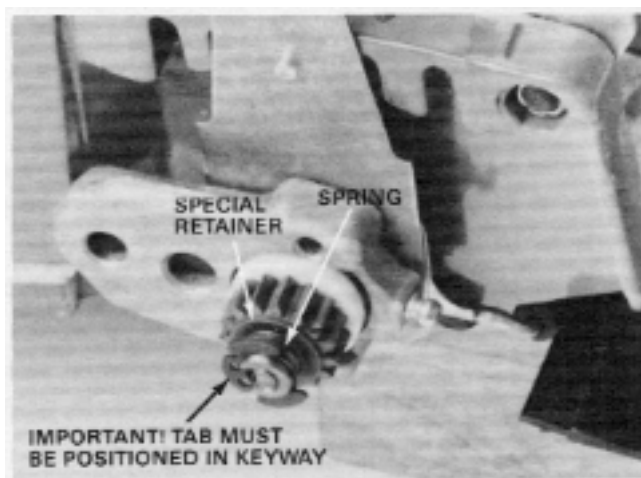

Figure 58
5. Assemble the spring arm and pivot arm as shown in Figure 58.
7. If removed, install new O-rings in the innermost groove 5.7 cm (2-1/4") in from end on each end, making sure that it is fully seated in the groove. See Figure 58.
16. Slip the spring onto the end of the output shaft and secure with the special retaining clip. Again, make sure that the center tab fits properly into the keyway to prevent rotation of the clip. See Figure 58.